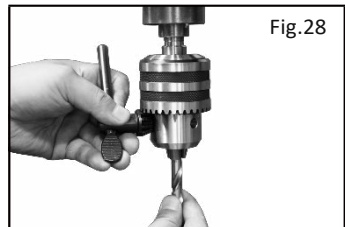

Fig.28
3. Whilst holding the drill bit in one hand rotate the top collar of the chuck in a clockwise direction. Insert the chuck key into 1 of the 3 rotating holes and tighten until drill bit is secure (Fig. 28).